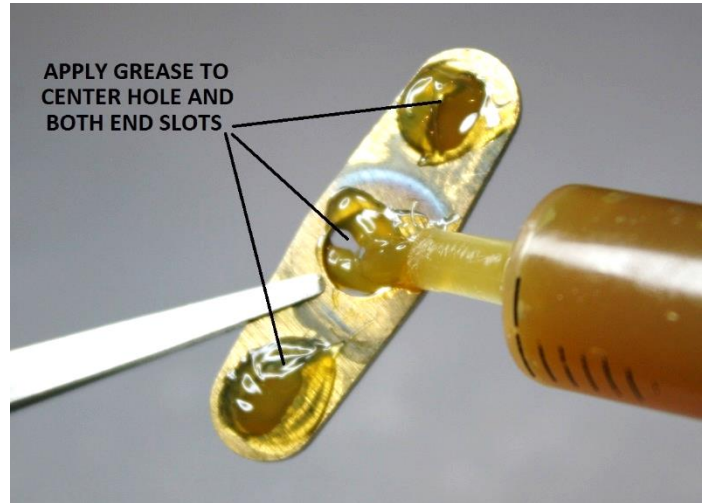

Figure 89 – Apply grease to the hole and slots in pivot lever
Apply a light coating of a suitable grease (item 5 of Appendix 1) to the center hole and to the two end slots in the brass pivot lever (see Figure 89).